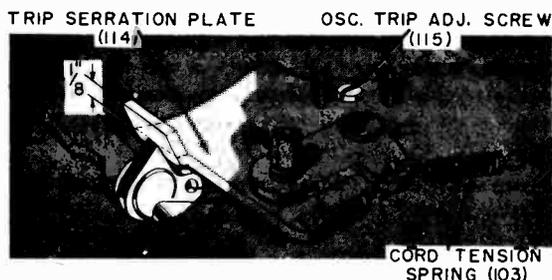

Figure 6. Trip Serration Plate, Showing Oscillating Trip Adjustment.
This record changer employs two different types of trip mechanisms to trip it into change cycle. For 78 RPM and 33 RPM operation, an "oscillating" type trip is used. See figure 6. This type of trip depends upon the in and out movement of the pickup arm caused by the eccentric groove in the record.
This record changer uses the oscillating type trip for 78 RPM and 33 RPM operation. See figure 6. In order for the changer to trip properly, the oscillating trip adjusting screw (115) must be properly adjusted. Also, this adjustment affects the position trip adjustment and consequently should be made carefully before attempting the position trip adjustment.
5. Adjust trip adjusting screw (115) until the point of the pawl (127B) is horizontally even or level with the smooth side of the trip serrations (114). See figure 6. The point of the pawl should be  $\frac{1}{8}$  of an inch from the bottom edge of the lip on the trip serrations.